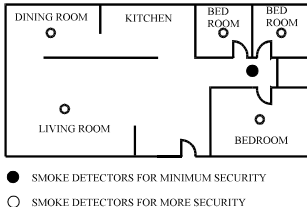
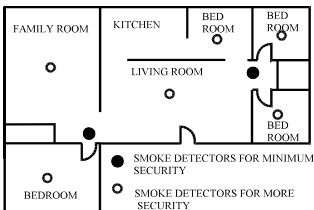

Figure 1: Locations for placing smoke detectors for single residence with only one sleeping area
Figure 2: Locations for placing smoke detectors for single-floor residence with more than one sleeping area
- ◆ Install a smoke detector in the hallway outside every separate bedroom area, as shown in Figure 1. Two detectors are required in homes with two bedroom areas, as shown in Figure 2.